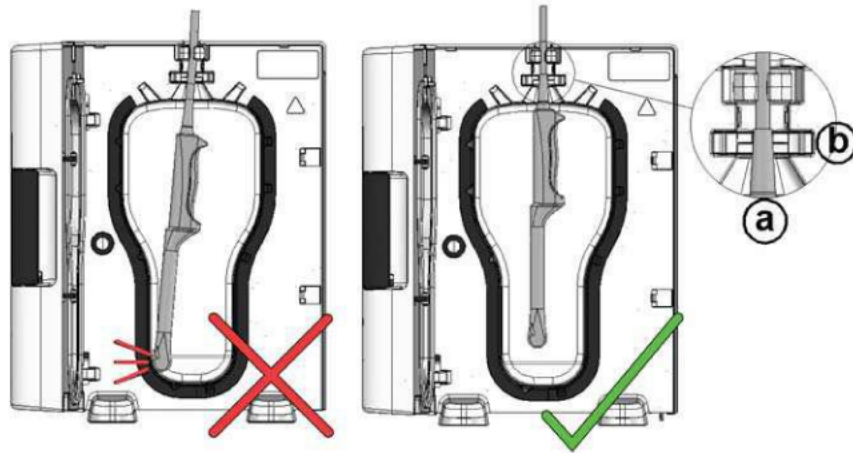

Figure 12
3. The probe is held securely in the chamber by the use of two clamps, refer Figure 12(a).
The probe has a short sleeve at the back of the handle, covering the electrical cable. This is referred to as the PROBE GLAND - Figure 12(a)